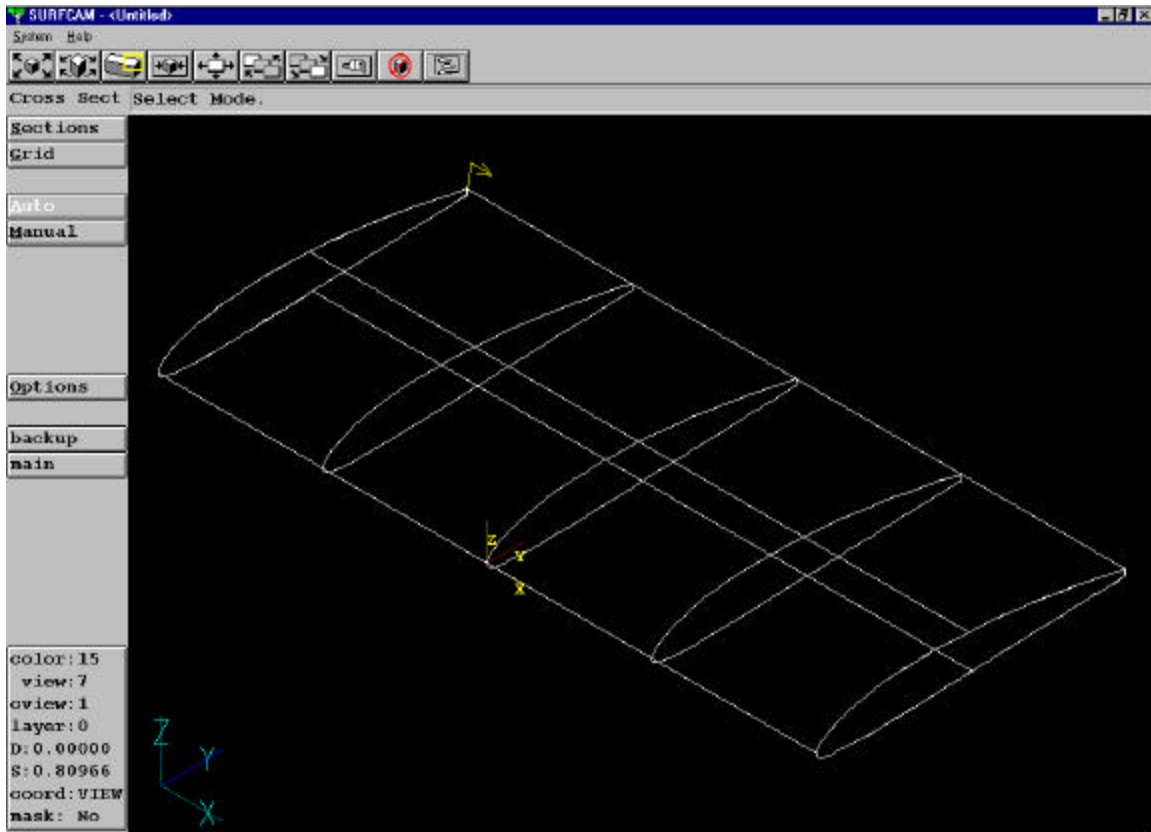

Figure 12: Surface created between two airfoil cross sections
- 3.) At this point, SurfCAM prompts for the selection of different cross sections to make the surface out of. Click on the two airfoils placed earlier. Click DONE. A surface should appear between the two cross sections. Check the surface to make sure it appears correct in relation to the airfoils created earlier. Refer to figure 12 for how the wing should look.
- 5.) Make sure that the stem of the arrow is pointing toward the outside of the surface. The position of the arrow is correctly depicted in Figure 12 above. This provides information to the router as to which side of the surface to machine – the inside or the outside. If it appears that the arrow is pointing toward the inside of the surface or the airfoil, this can be easily changed using the following procedure: